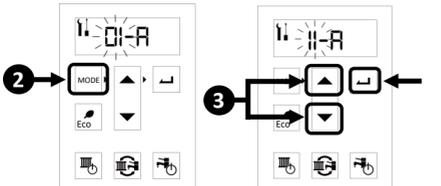

Fig. 6. "Mode" Button
- Press the "Mode" button on the controller (Fig. 6).